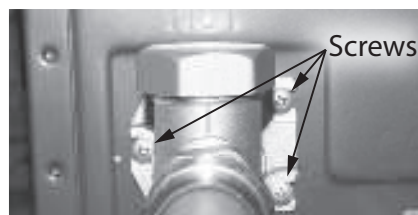

Figure 231 - Outlet assembly screw location
21 Locate the three (3) screws securing the outlet assembly to the base of the water heater. Use a Phillips screwdriver to remove the screws. Place screws aside in a safe place for reinstallation. See Figure 231.